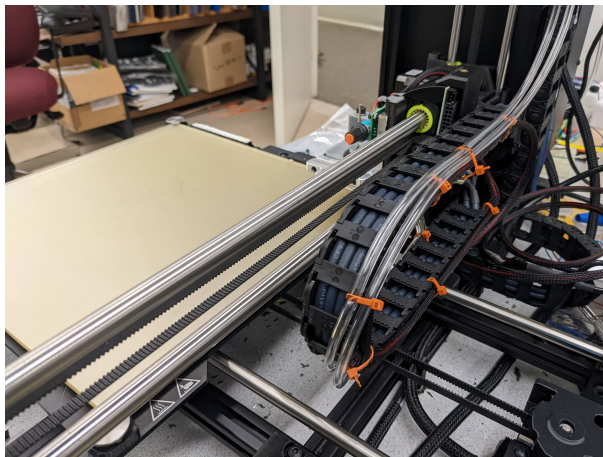

Fig. 4. Tubes ziptied to the printer's drag chain.
4. Add zip ties or velcro cable ties to hold the tubing to the 3D printer's drag chain, see Figure 4, to keep the tubing out of the way during printing.